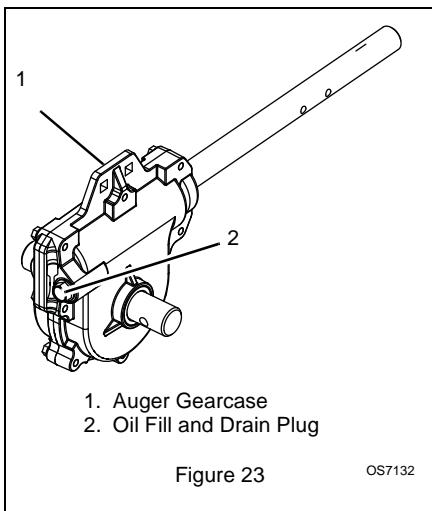

Figure 23
1. Remove filler plug (Figure 23). Lubricant must be at least up to bottom of lubricant filler hole with unit resting on a level-surface.